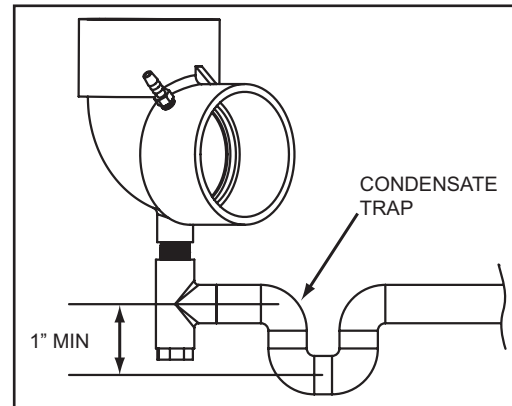

Figure 50
4. Using 1/2" PVC elbows and pipe build a condensate trap as shown in Figure 50. Use PVC primer and cement on all joints.
5. Ensure the trap has the minimum height between the inlet and the bottom of the condensate trap (on center line) as shown in Figure 50.